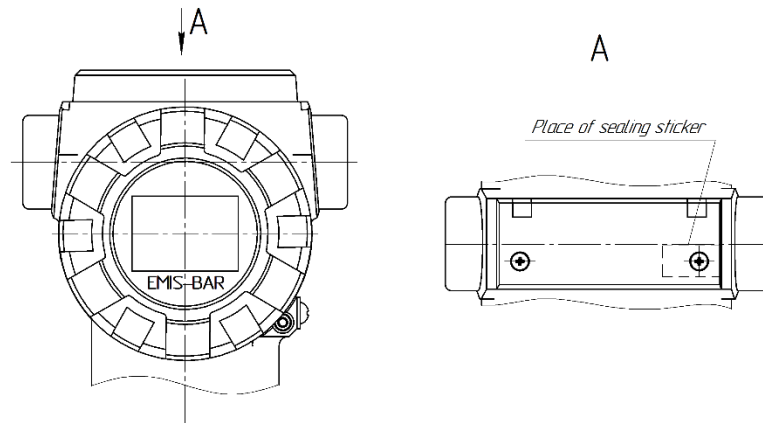

Figure 10 – Sealing sticker
1.9.4 The transmitter is sealed at the factory to prevent unauthorized access to the control unit. The seal is in the form of a warning sticker. To operate the transmitter, you have to remove the sticker and, after the operation, install a new one. Operation shall be performed by duly authorized manufacturer employee. Sticker location is shown in the figure 10.